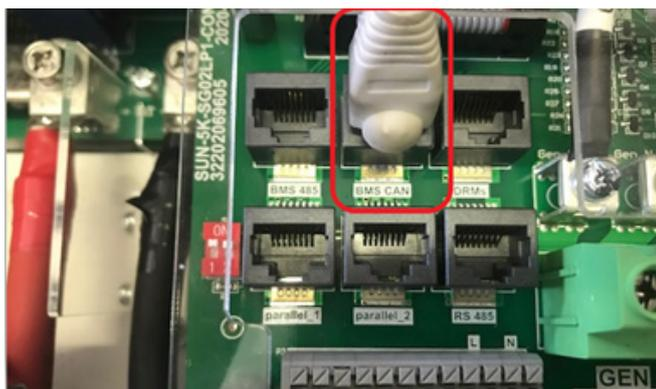

Figure 2: BMS CAN port for Sunsynk Inverter
- Connect the inverter side of the CAN cable to the BMS CAN port of the inverter as shown on Figure 2.